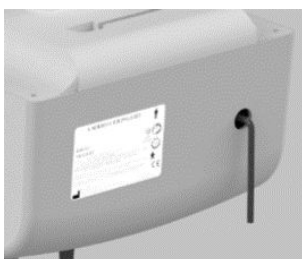

Figure 8: Allen Key in Slot
4. Insert the Allen key into the slot as shown in Figure 8.